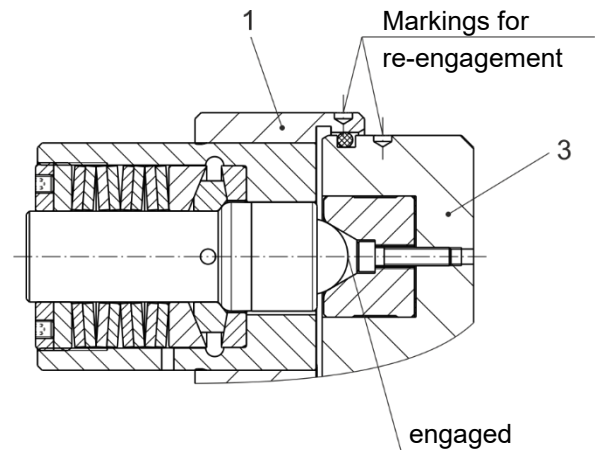

Fig. 3
Re-engagement (Figs. 3 and 4)
The marking bores on the outer diameters of the flange hub (1) and the pressure flange (3) must align with each other (Fig. 3). Re-engagement takes place by placing axial pressure on the bolt (7) end of each overload element (2).